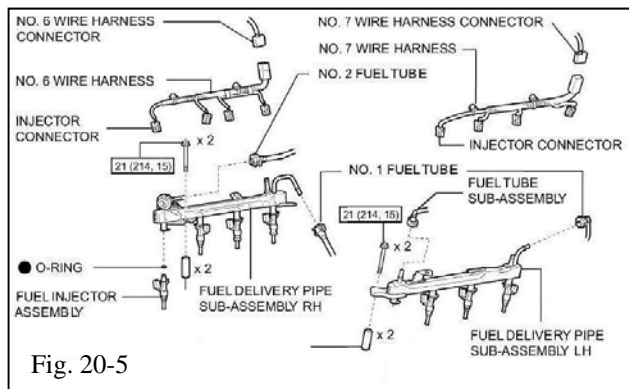

Fig. 20-5
- (i) Reconnect the No. 6 and No. 7 wire harness connectors (Fig. 20-5).
- (j) Connect the 4 fuel line connectors, 2 per side (Fig. 20-5).